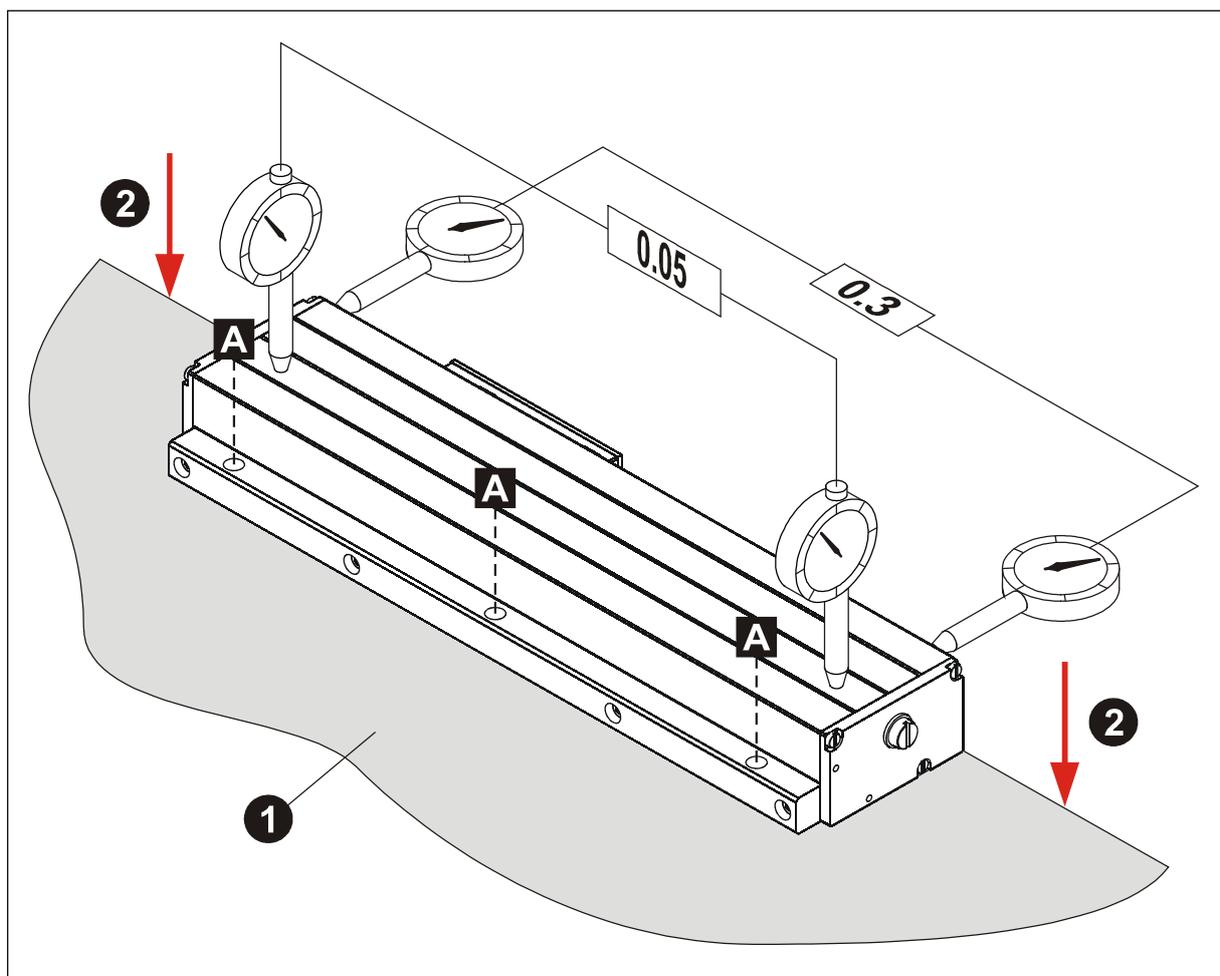

Figure 6: Housing mounting
- Align housing according to the tolerance data Figure 6 page 45 over the complete measuring length